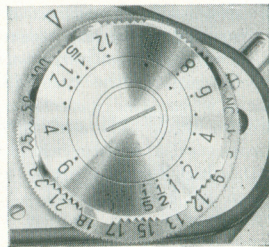

Fig. 7
Wind the shutter. Set small speed setting knob (10) on T or B, turn big speed setting knob (18) clockwise, see fig. 7, as far as it will